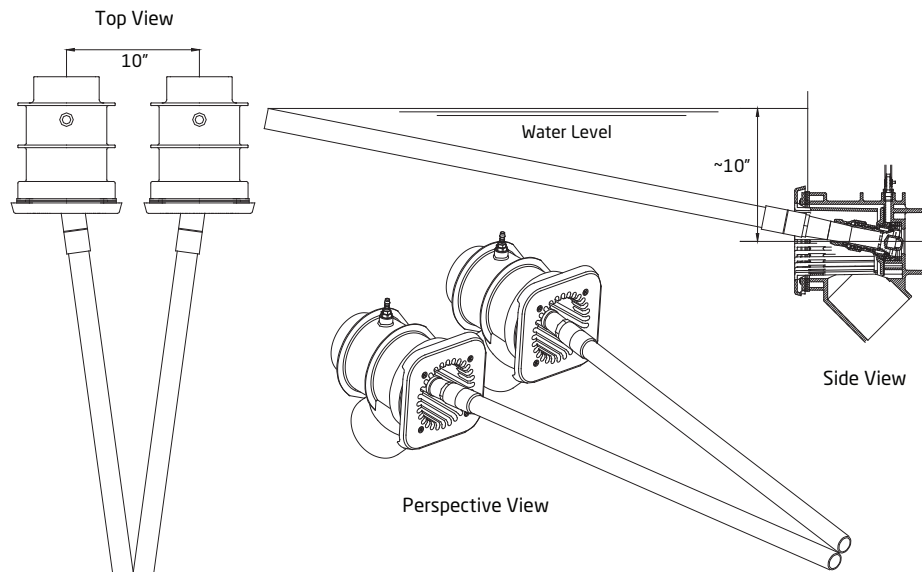

Figure 4 - BaduStream Nozzle Adjustment
3. Once that is complete, bring the blue nozzle tool up to where the end of the nozzle tool breaks the surface of the water. Then bring the two nozzle tools together to meet. (See Figure 4)